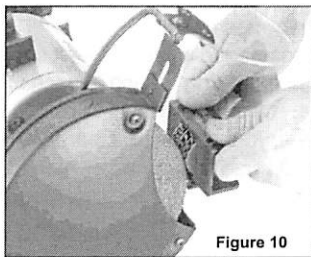

Figure 10
3. Hold the dressing tool firmly on the tool rest with both hands and press it lightly against the front surface of the grinding wheel as shown (in Fig10).